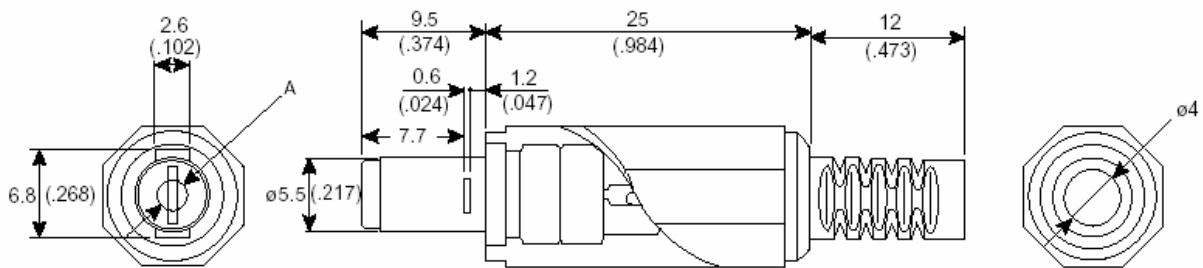

Figure 3. Mouser DC power plug model 171-0725.
***CAUTION:** The positive (+) DC power input should be soldered to the center pin of the Mouser 171-0725 connector. The negative (-) DC power input should be soldered to the outside pin of the Mouser 171-0725 connector (Figure 3). Before connecting the DB25 Data Kit to a modem, user is recommended to measure voltage across pins 4 and 3. The voltage across these two pins (pin 4 is positive and pin 3 is ground) should be between 4.0VDC and 4.8VDC.